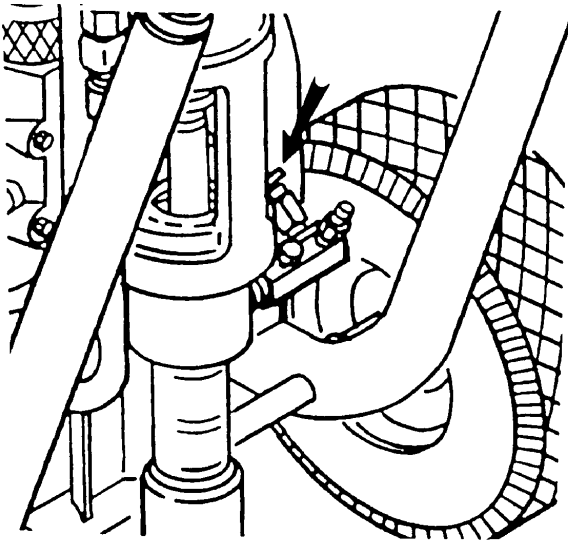

FIGURE 4
6. Open the Pressure Bleed Valve by turning it counterclockwise. This relieves pressure. See Figure 4.
D. Close Pressure Bleed Valve by turning it clockwise. This allows the system to pressurize. Hold gun trigger open, without spray tip attached, until the fluid flows smoothly. See Figure 4.
screw. See Figure 4.
6. Place the spring on the brush as shown in Figure 4. Push in and hook the spring clip. Repeat this procedure for the other side. Reinstall the inspection covers.